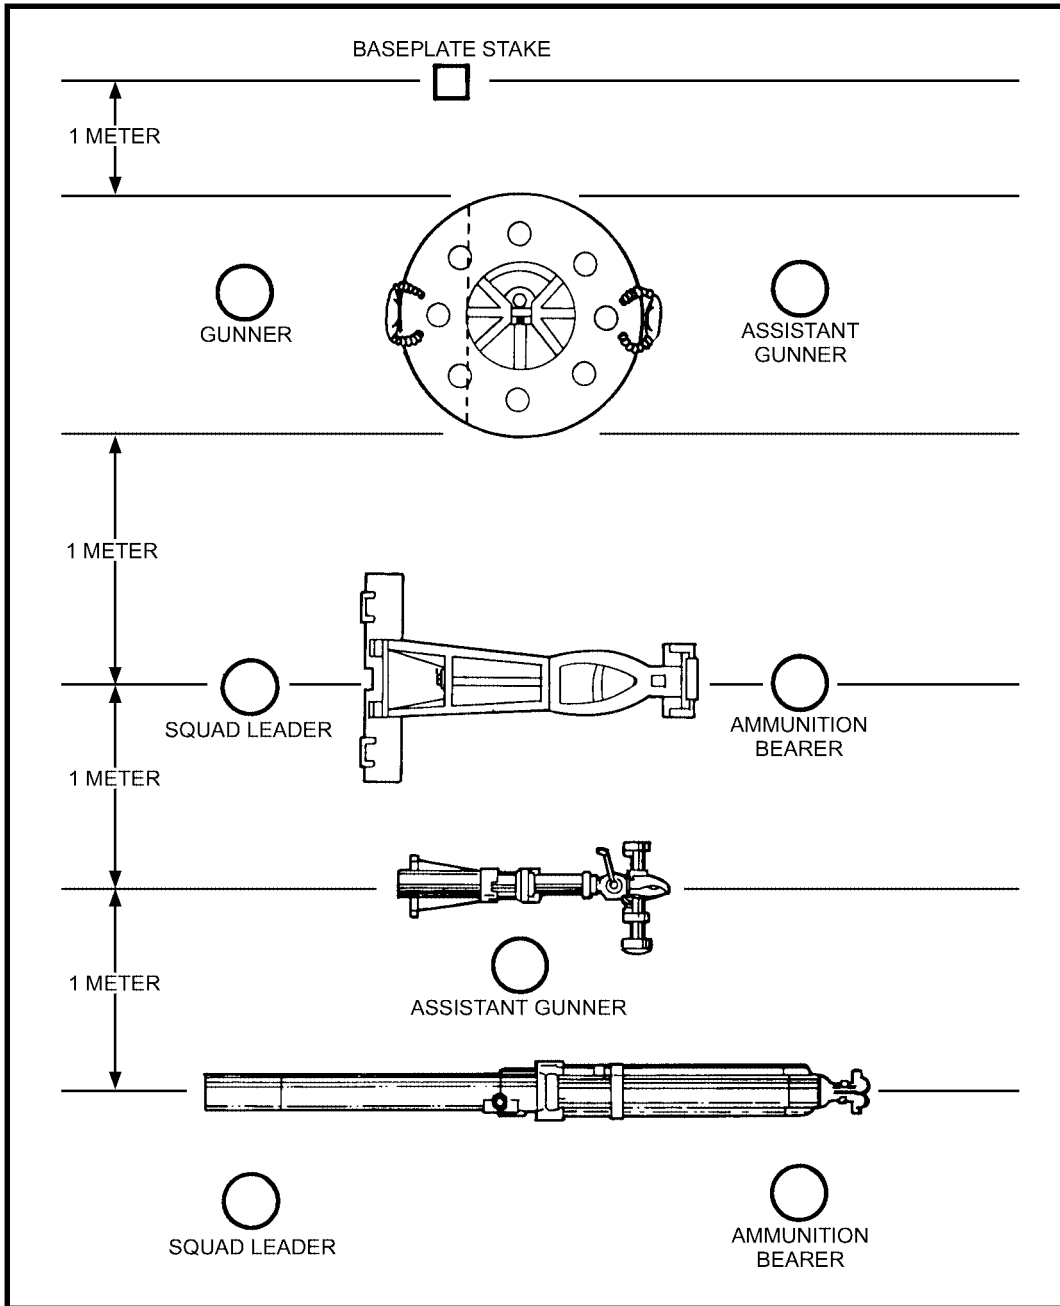

Figure 9-2. Diagram of equipment layout and position of personnel for the gunner's examination (4.2-inch mortar).
(1) (*All mortars*) The candidate arranges his equipment as outlined in Figures 9-2 through 9-6, pages 9-6 through 9-10. The emplacement is marked before the examination.